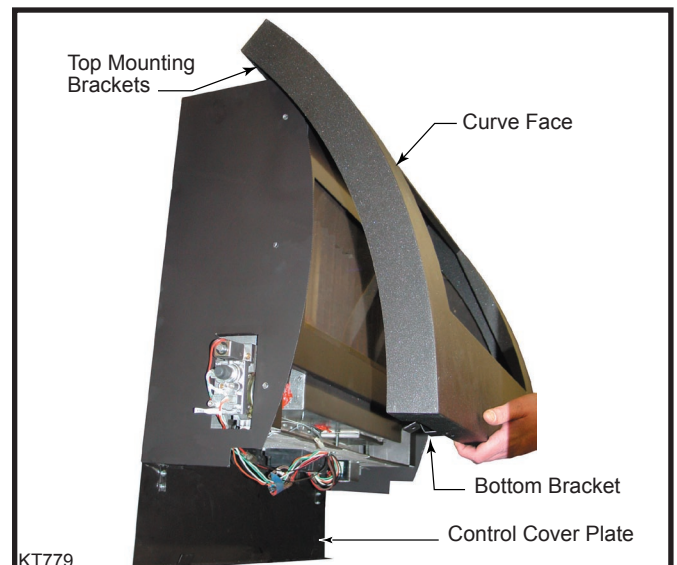

Fig. 32 Hang Curve Face in place.
3. Remove two (2) bolts on bottom side of unit holding front trim face on. (Fig. 32)
4. Remove front trim face by tilting bottom out and lifting face off unit. (Fig. 32)
The Curve face is fitted to the fireplace by hooking the top edge of the face over the mounting brackets as shown in Figure 32. Secure with two (2) screws on the bottom face of the trim. (Fig. 32)